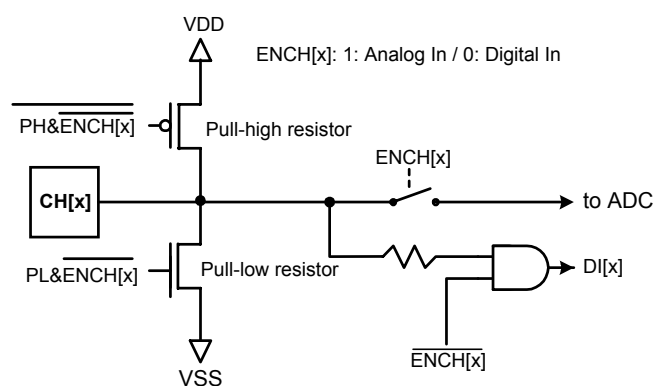

Figure-11 Circuit diagram of the Input Channel PAD
- (1) If any channel is programmed to be analog input mode, then the corresponding internal signal, $ENCH[x]=1$. As in Figure-11, pull-high and pull-low are disabled. And the path to digital input is blocked. All digital reading operation of this channel will get the result “0”.
- (2) If any channel is programmed to digital input mode, then the corresponding internal signal, $ENCH[x]=0$. As in Figure-11, the path to ADC is removed.
- (3) While in digital input mode, this input port can be configured to be floating, weak pull-up, or pull-down by setting the control register PH and PL , where $PH\&PL=1$ is forbidden. The pull-up or pull-low resistor are both around $500K\Omega@3v$.
- (4) The default status (digital/analog, pull up/down) of all the channels are un-know after power on, so initialize each channel to define a correct state should be done after power on.
- (5) Mode of each channel ($ENCH[x]$) can be set by command 001.